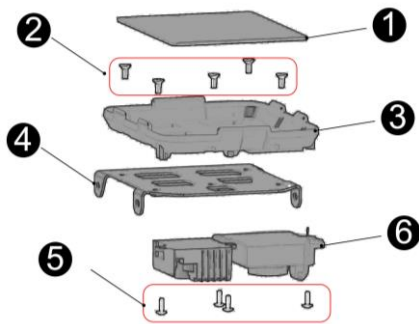

Fig 58
11.29 Disassemble stop plate under battery (see Fig 58)